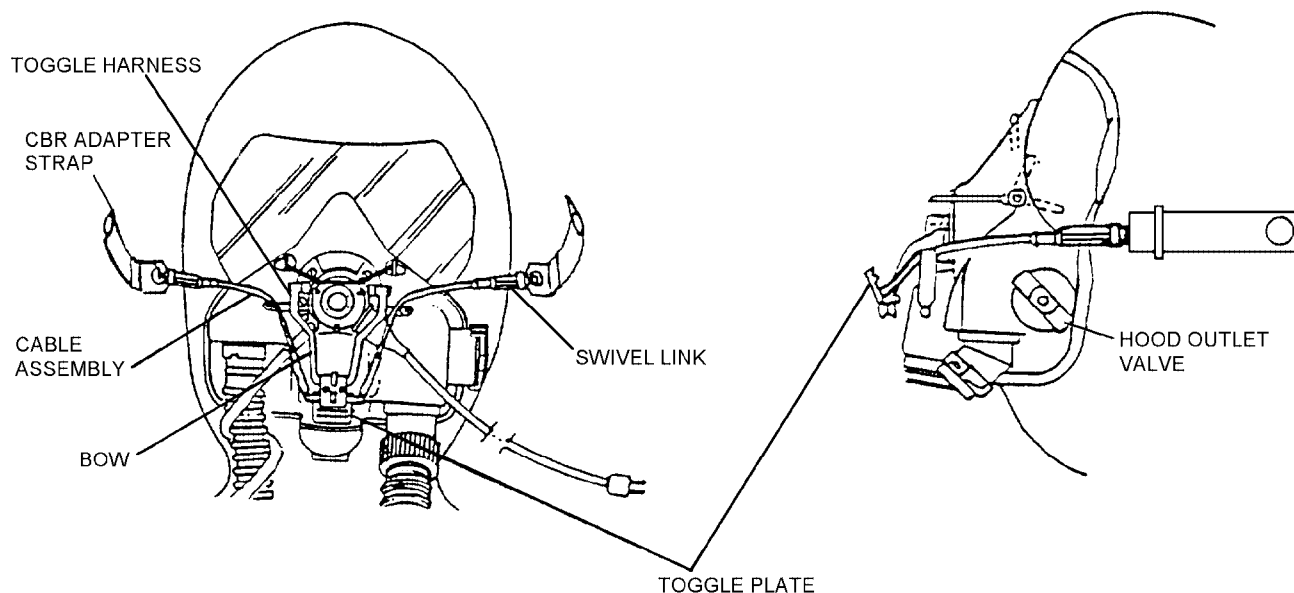

Figure 3-12. Toggle Harness Assembly
3-23. Toggle Harness Assembly. The toggle harness assembly (figure 3-12) is mounted on the front of the faceplate, around the microphone. The assembly is held in place by four (4) countersunk screws which pass through the MCK-3A/P Mask harness assembly and into the faceplate. The screws are drawn tight by four self-locking nuts. A V-shaped hinged bow, which freely pivots upward or downward, is suspended from two rectangular studs protruding from the MCK-3A/P Mask harness assembly. Attached to the end of the bow is a toggle plate which pivots upward and downward and provides the tension for tightening the MCK-3A/P Mask to the aircrewmember's face. Two cable assemblies are connected to the toggle plate, and each is fitted with an adjustable swivel link which allows the cable assemblies to be adjusted approximately 1 inch in length for proper mask tension. The swivel link is attached to the CBR adapter strap which is used to couple a helmet to the MCK-3A/P Mask. The adapter strap is attached to the swivel link with C-clips. When coupling, the cable